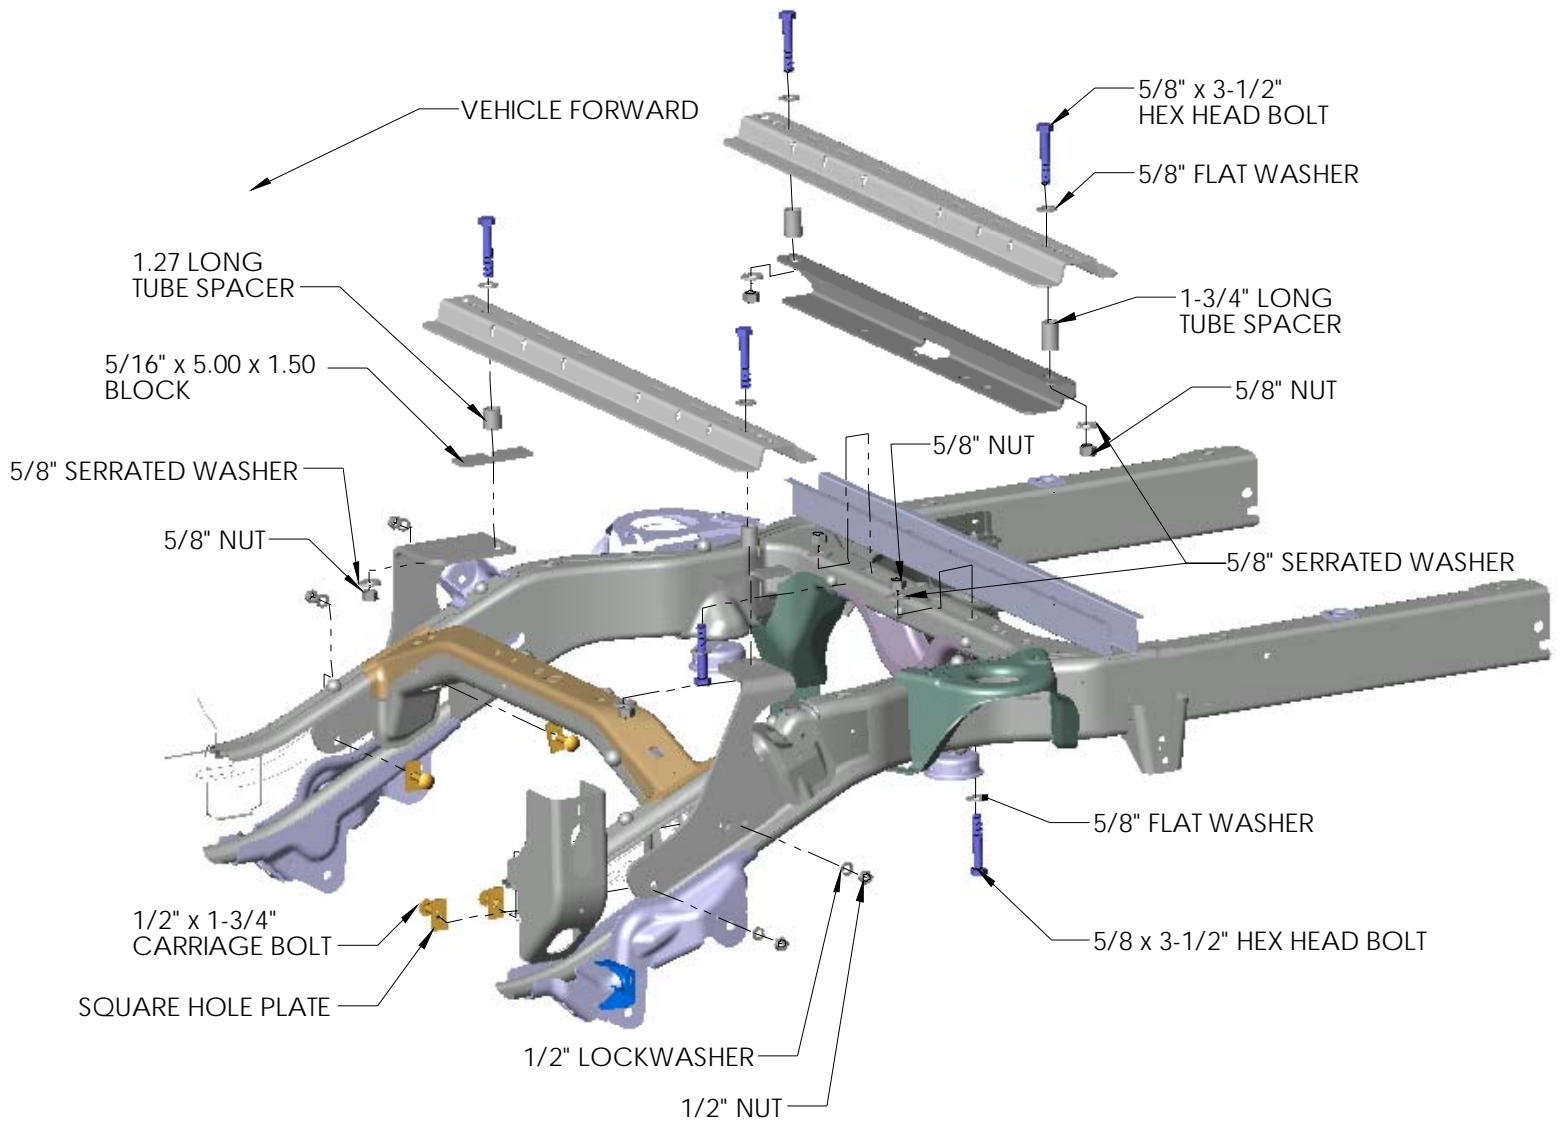

FIG. 2
9. Use a center punch to mark the holes in the rail as shown in illustration on page 6 and fig. 2. Move the rail out of the way and drill each position through the bed with a 1/8" drill bit. **Note: On the driver's side of the vehicle the gas tank is located below the bed of the vehicle. When drilling holes through the bed be sure not to damage the fuel tank.**
16. Install the front frame rail brackets as shown on page 1. Use the 1/2" pull wire to pull the carriage bolts and square hole plates into the frame. Enlarge the 1/8" drilled holes to 1-1/8" with a hole saw. Reposition the mounting rails over the holes drilled in the bed. Place the 2" long tube spacers through the 1-1/8" holes. Fasten the front rail to the frame brackets as shown in figure 2 using the 5/8" bolt and flat washer down through the rail. Fasten with 5/8" serrated washer and nut.